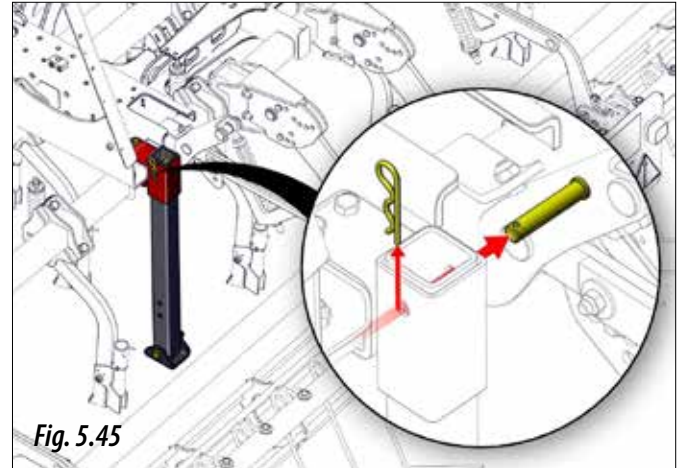

Fig. 5.45
- 1- Remove the pin and the bolt (Fig. 5.45) to release the leg.